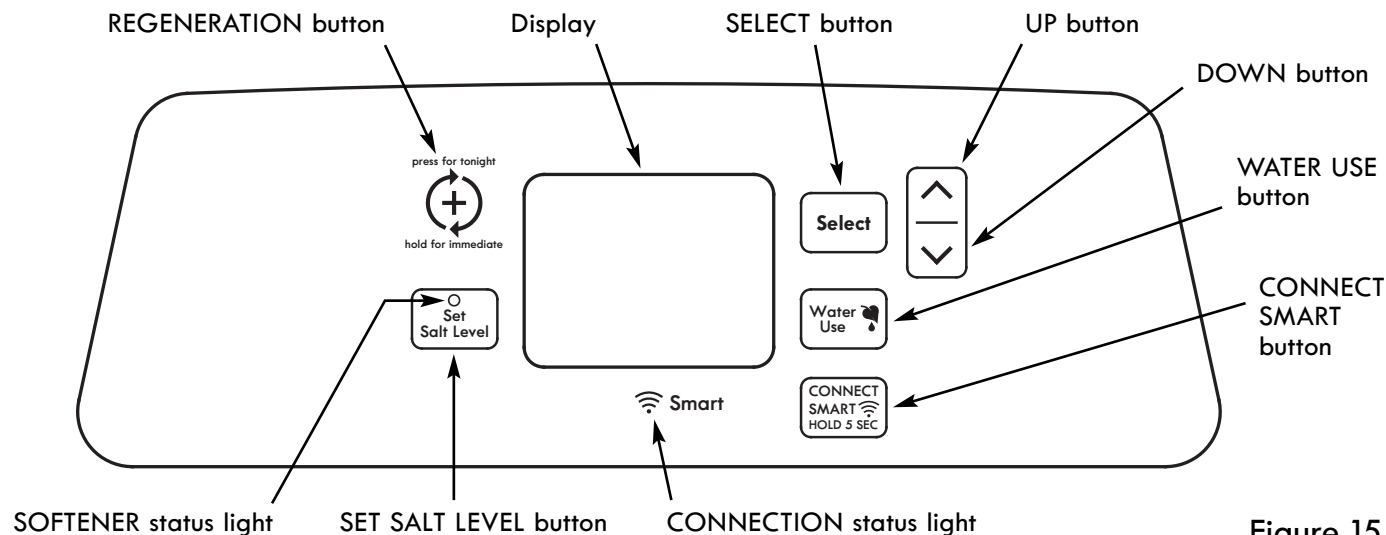

Figure 15
5. Initiate a regeneration by pressing and holding for 3 seconds the REGENERATION button (see Figure 15 on page 13). The valve motor will start running and the valve will advance to the "Fill" position.